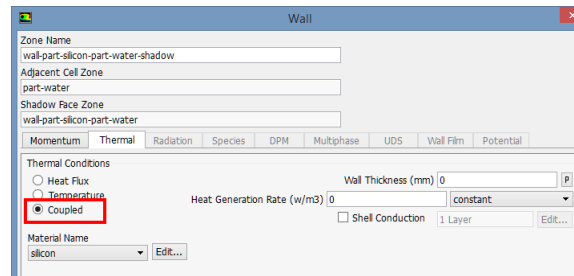

Figure 46: Coupled thermal boundary condition at the solid-fluid interface.
- (2) Select now *topfluid* and verify that, in the *Momentum* tab, it is set as a *No Slip, Stationary Wall* and that in the *Thermal* tab it is set as an insulated wall, e.g. *Heat Flux* equal to zero. Click *OK* to close the *Wall* dialog box for the *topfluid* zone.
- (3) For the *wall-part-silicon-part-water-shadow* verify that, in the *Momentum* tab, it is set as a *No Slip, Stationary Wall* while in the *Thermal* tab the *Thermal Conditions* should be set to *Coupled*, as depicted in figure 46.